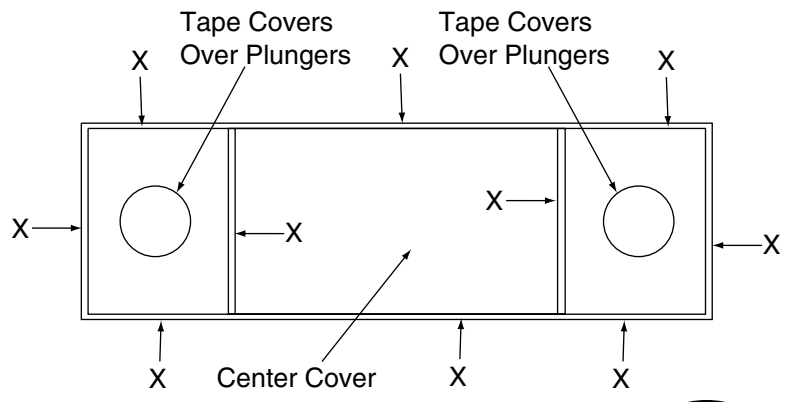

Fig. 6
- A. Duct tape joint areas indicated by X, Fig. 6, to protect these areas during backfill and concrete work. Backfill around unit using only pea gravel to within 18" of top of finished floor.